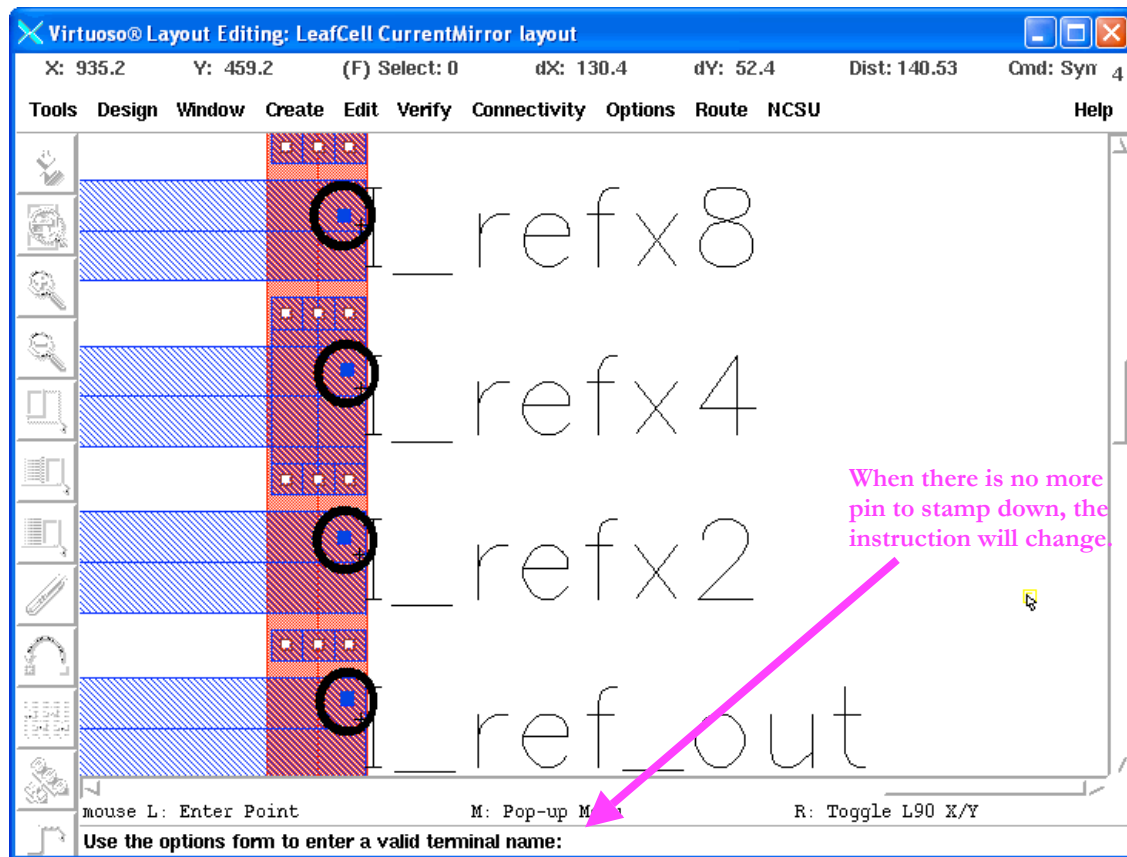

Figure 84: Stamping the rest of output pins.
24. Stamp down the rest of the output pins in the same manner (Figure 84).